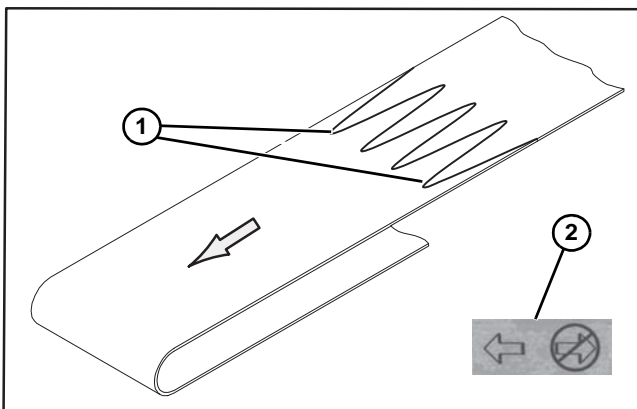

Figure 24
- Orient belt so splice leading fingers (**Figure 24, item 1**) point in the direction of belt travel as identified by the conveyor directional label (**Figure 24, item 2**).